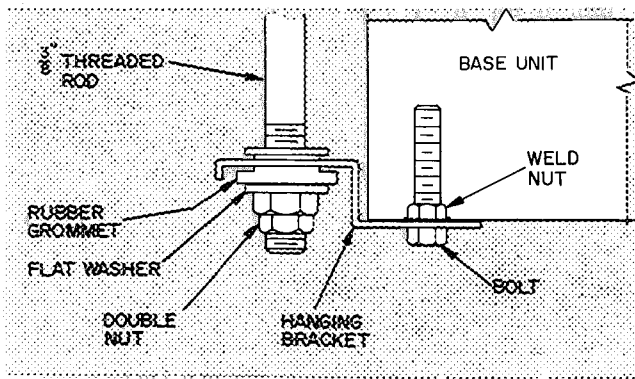

**Fig. 1 — Suspension Kit
- 50HQ units include a suspension package for ceiling installation. To attach hanging brackets, install 4 bolts (5/16 x 18-3/8 in. lg) thru bracket into the 4 weld nuts located on bottom of unit. Insert the threaded rod thru rubber grommet, located in hanging bracket, and attach with flat washer and double nut. See Fig. 1.